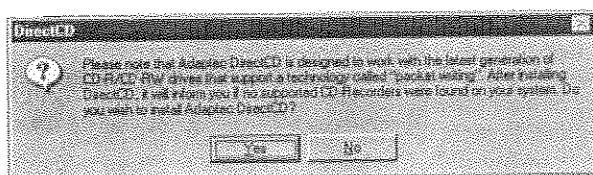

Figure 14. DirectCD Installation Support Warning
**Note:** When installing DirectCD, the system will display a message about CD-R/CD-RW support (see Figure 14). The TEAC CD-RW supports "packet writing." Therefore, click the "Yes" button to install DirectCD.